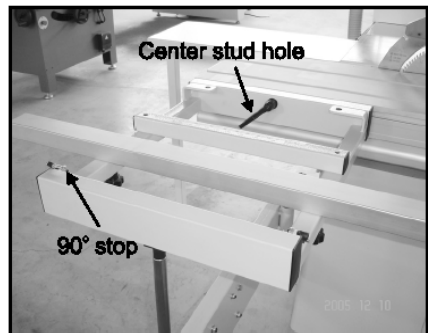

Fig. 48
1. Install the crosscut fence in the center stud hole. (Fig. 48)
Check to make sure the fence is at 90° and adjust it. (Fig. 48)